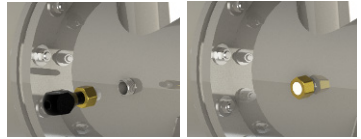

Figure 6: LE6 Sensor installation (left), LE5 Glow Plug installation (right)
Step 6: (Applicable only if you have a UV sensor). Carefully remove the sensor from its packaging and insert the sensor into the UV sensor port (**Figure 6**).
Ensure that the flat portion of the UV sensor matches up with the half metal lip on the sensor port (flat portion should face the lamp connection end) (see **Figure 6**) Ensure that the sensor is fully seated in the sensor port and then tighten (turning clockwise) the sensor nut. **PLEASE NOTE:** DO NOT over tighten the nut as this could damage the Teflon sensor body. Plug the male connector into the sensor port located on the bottom of the control panel.